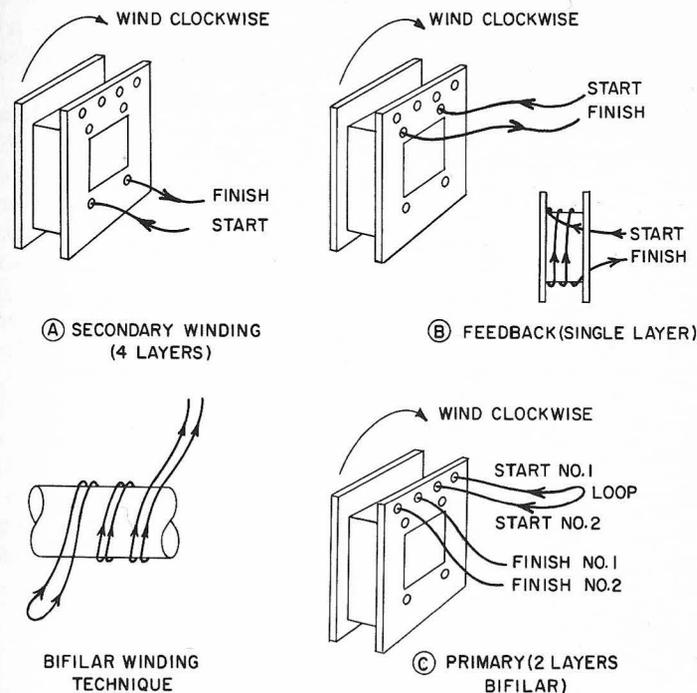

Figure A5.4 Transformer bobbin winding instructions
2. Wind 140 turns of No. 30 AWG G-E Formvar (or equivalent) insulated wire in *four complete layers only*, starting and finishing as shown in Figure A5.4(a). Insulate the completed secondary winding with *one layer* of 1 mil mylar bound tightly around the top layer of the coil.
3. The nine-turn feedback winding goes on next. Starting and finishing as shown in Figure A5.4(b), wind on nine turns (actually  $8\frac{3}{4}$  turns) of No. 30 Awg G-E Formvar (or equivalent) insulated wire in *one layer only*.
4. Take a six-foot length of No. 20 Awg G-E Formvar (or equivalent) wire and double it in two. Insert each free end into the bobbin as shown in Figure A5.4(c), leaving a 3-inch long loop protruding from the bobbin. Take the free ends of this wire together and wind both
ends simultaneously (side by side) nine times (actually  $8\frac{3}{4}$  times) in two layers around the bobbin, finishing as shown in Figure A5.4(c). This procedure is called "Bifilar" winding, and is done to achieve maximum coupling between the two separate halves of the primary. Finish off the bobbin by tightly wrapping two or three layers of Mylar tape around the completed primary windings. Cut the loop at the start of the primary winding and identify the start and finish of each half winding for wiring purposes. An ohmmeter is useful for this purpose.